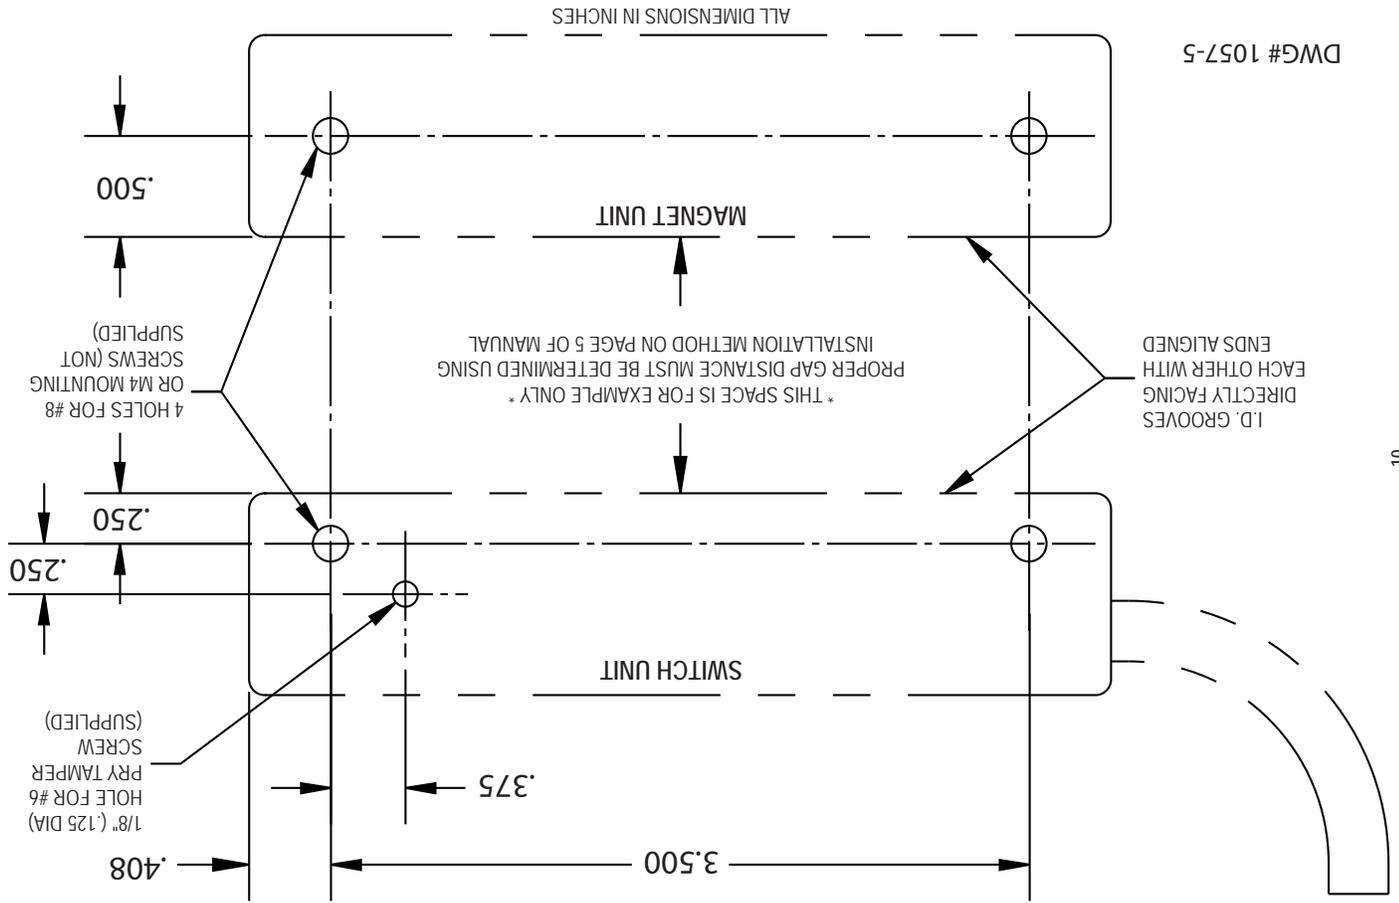

Figure 5.
4. Use the supplied switch and magnet templates (See figure 5) to mark the mounting holes.